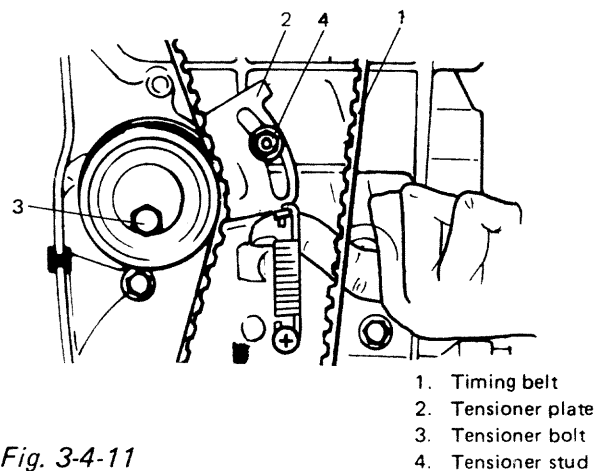

Fig. 3-4-11
9) Loosen tensioner bolt and stud, and remove belt from crank timing belt pulley and camshaft pulley after pushing up tensioner plate fully by finger as shown in Figure 3-4-11.